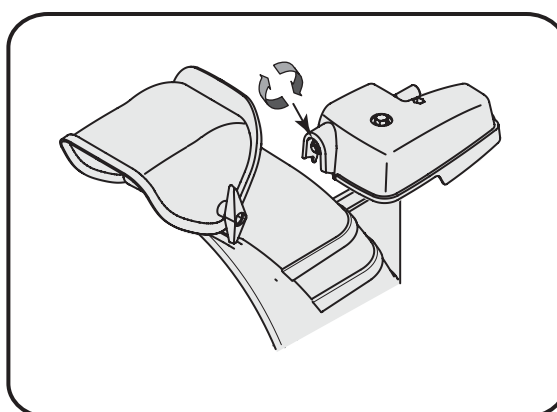

Figure 5-10 - Models with tall chute only.
- While preventing the chute control rod from turning tighten the nut on the chute gearbox assembly. See Figure 5-10.